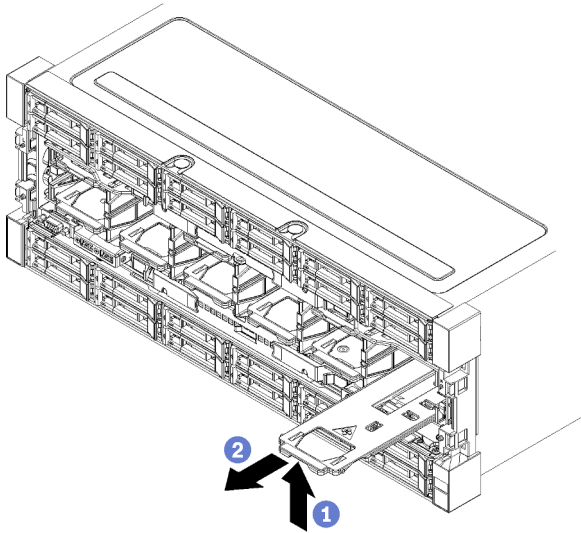

Figure 63. Fan removal
- Step 1. Press the fan handle inward toward the center of the server to release the latch; then, pull the fan forward halfway (see Figure 63 “Fan removal” on page 100), and wait 10 seconds.